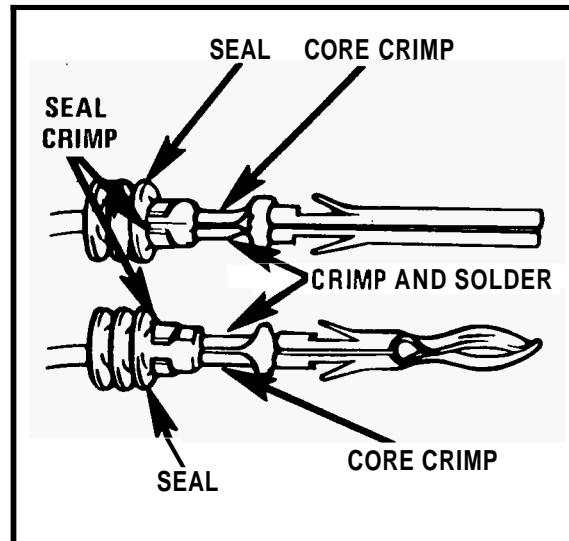

Figure 30 - Replacing The Terminal
- Crimp the new terminal over the copper strands (core crimp) as shown in Figure 30. (Use a standard crimping tool—number 525563 in the Kent-Moore catalog.)
- Crimp the grips at the end of the terminal around the cable seal and insulated wire as shown in Figure 30 (insulation crimp). Apply light pressure for this crimp.